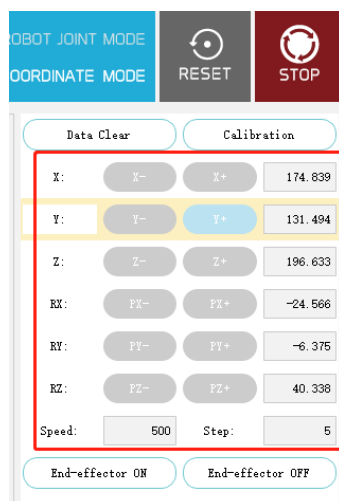

Figure 2.23 Mirobot Studio position and attitude control buttons
(3) Click the control button on the right side of Mirobot Studio to control the spatial position and attitude (XYZ coordinate and RPY angle) of the end actuator of the manipulator. The speed can be adjusted at speed, and the step can be adjusted at step. As shown in Figure 2.23.